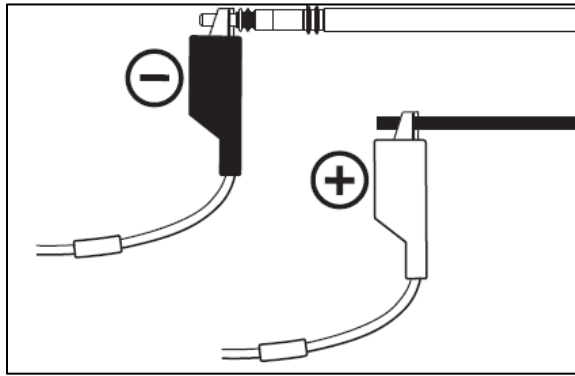

Figure 1. Connection diagram for unipolar pacing leads, type IS-1
2. Connect the black (-) clip to the connector pin (Figure 1).
3. Connect the corresponding red (+) clip to an indifferent electrode that is in contact with subcutaneous tissue (Figure 1).